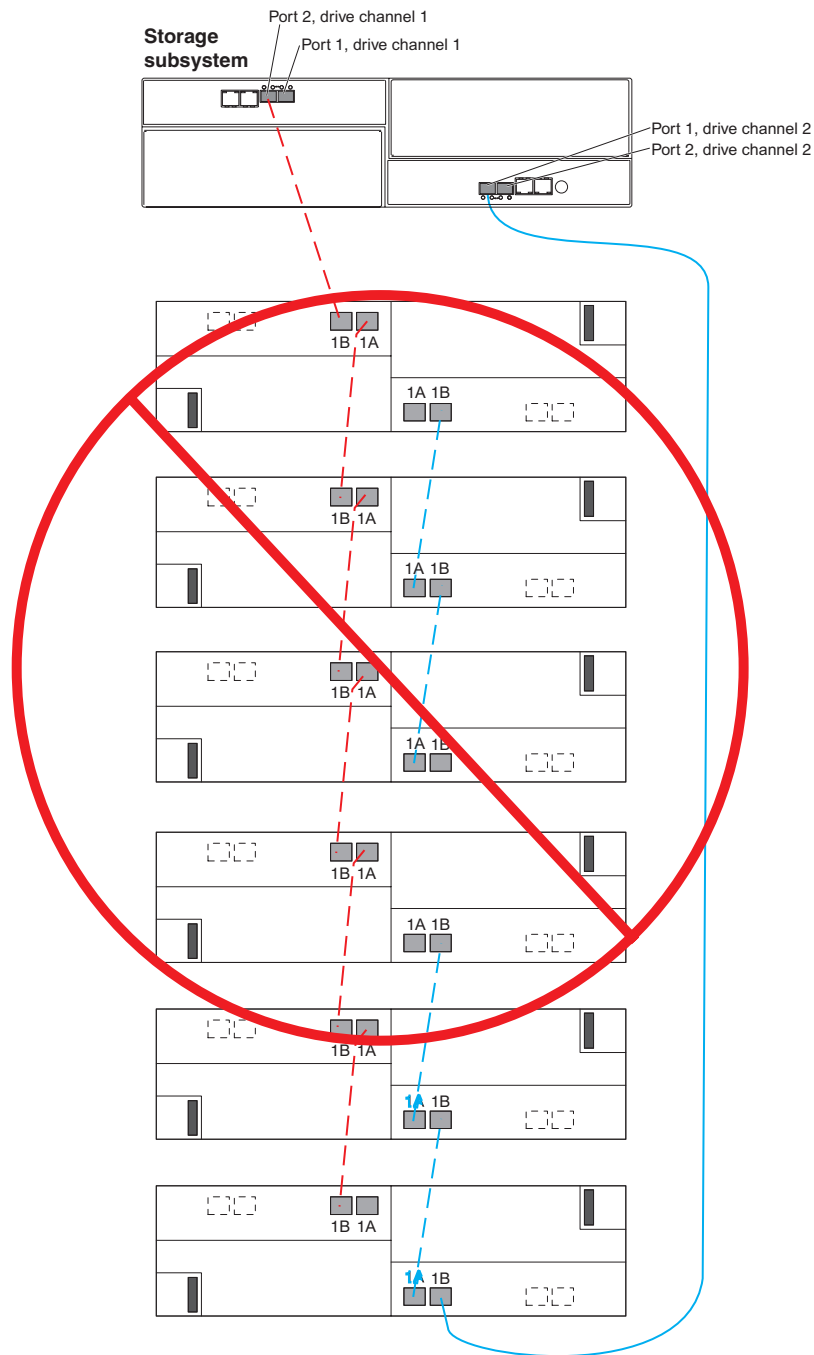

Figure 42. Cabling for one DS3950 and up to six storage expansion enclosures
Figure 42 on page 66 shows a cabling topology that is incorrect because all six storage expansion enclosures are connected to a single drive port of the dual-ported drive channel in each controller.
**Important:** Do not cable the storage subsystem and storage expansion enclosures as shown in Figure 42. A storage array with the incorrect storage topology might appear to be functional, but incorrect cabling can potentially have unpredictable results.